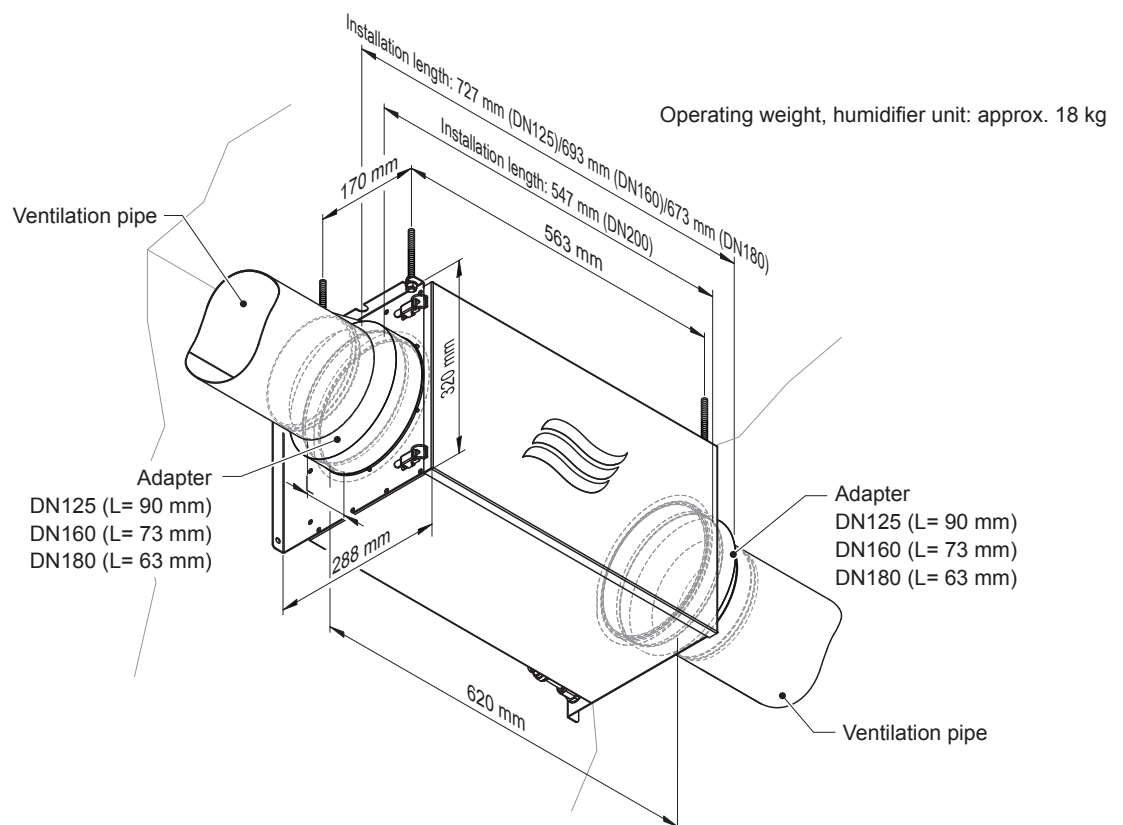
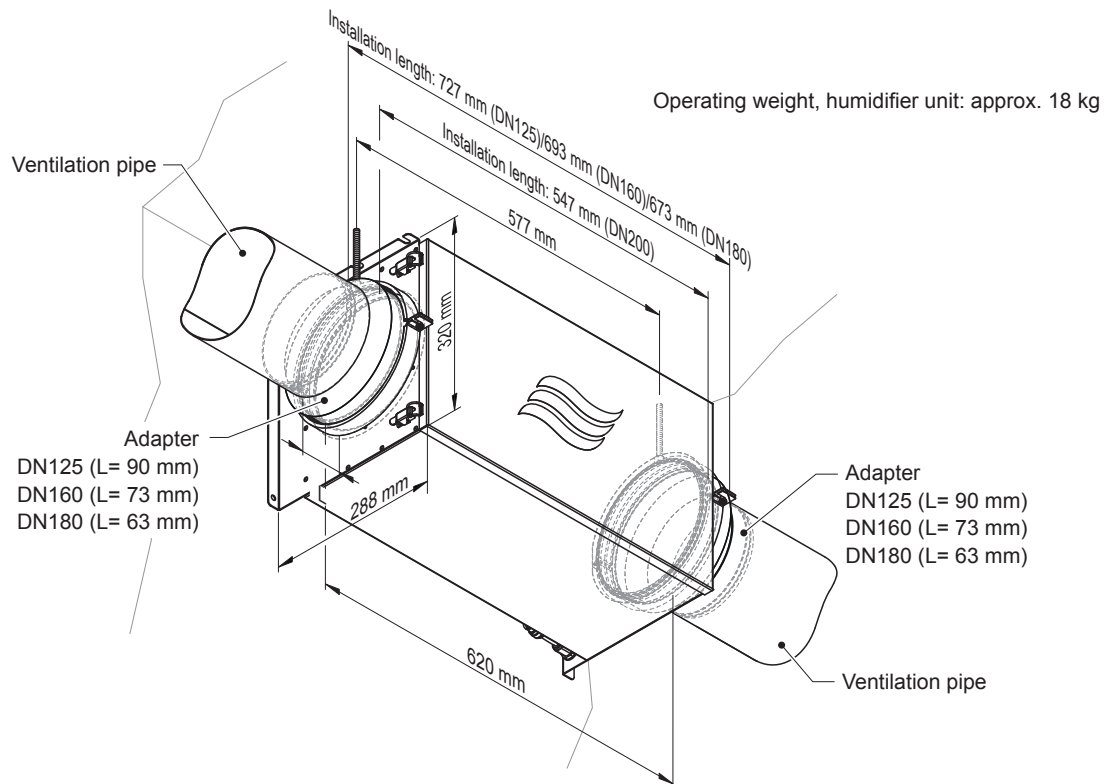
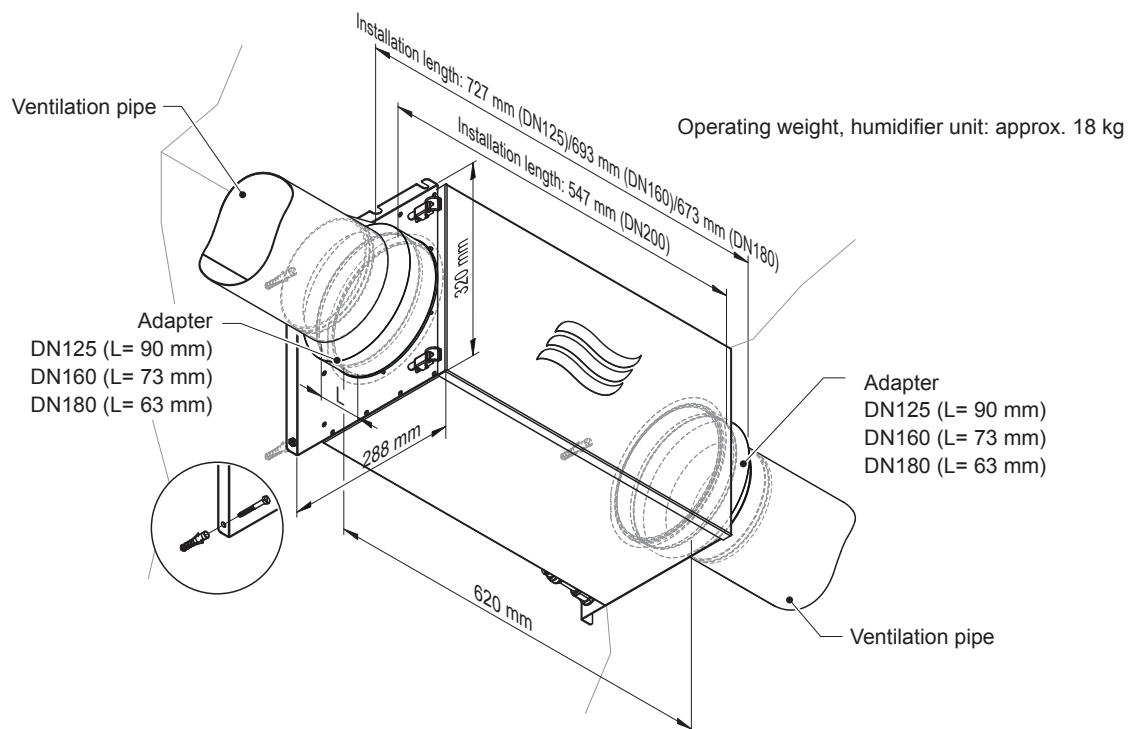

Fig. 3: Dimensions ceiling mounting with threaded rods
Fig. 4: Dimensions ceiling mounting with pipe clamps
Fig. 5: Dimensions wall mounting
- The ceiling/wall on which the humidifier unit or the hydraulic unit is mounted must have sufficient load-bearing capacity and be suitable for fastening (see *Fig. 3*, *Fig. 4* and *Fig. 5*).
Ceiling mounting with threaded rods: The humidifier unit is fastened to the ceiling with four threaded rods and nuts (see *Fig. 3*). The fastening material is not included in the scope of delivery.
Alternative ceiling mounting with pipe clamps: The humidifier unit is fastened to the ceiling with two ø200 mm pipe clamps (see *Fig. 4*). The fastening material is not included in the scope of delivery.
Wall mounting: The humidifier unit is attached to the wall with 4 dowel pins and screws (enclosed) (see *Fig. 5*).